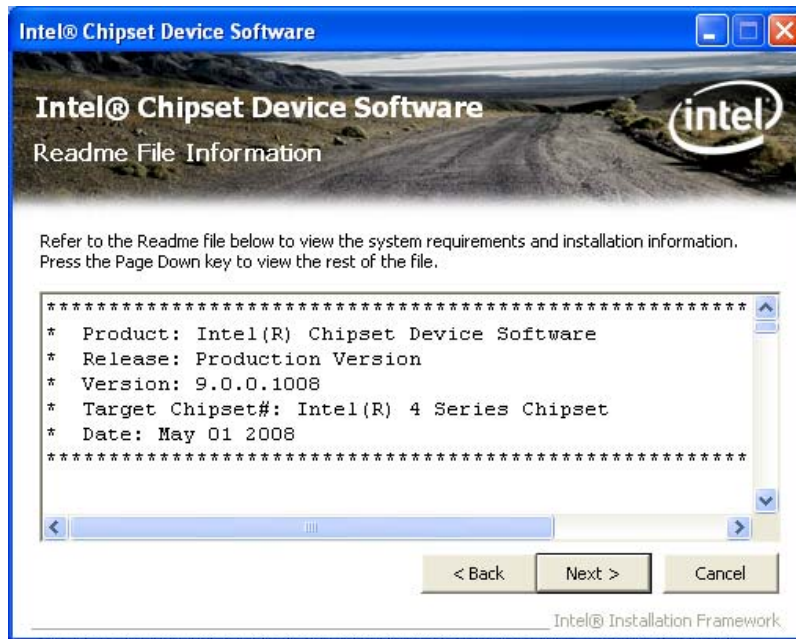

Figure 6-7: Chipset Driver Read Me File
Step 9: The Read Me file in Figure 6-7 appears.